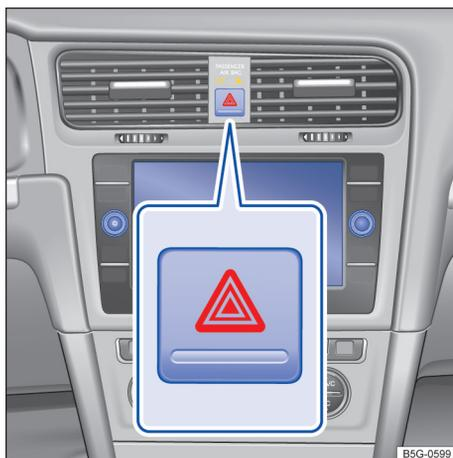

Fig. 47 In the center of the instrument panel: Button for the emergency flashers.
2. Switch on emergency flashers by pressing the ⚠️ button → fig. 47.
3. Shift the transmission to Park (P) (automatic or DSG) or Neutral (manual only) → page 148, *Automatic and DSG® transmission*.